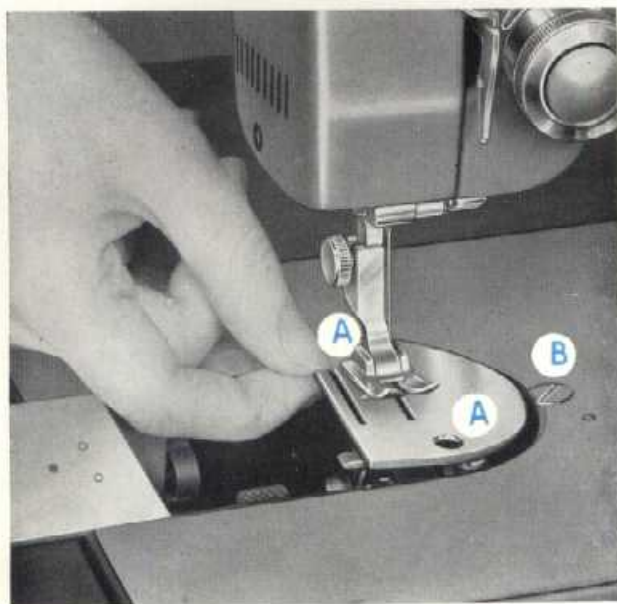

Fig. 7
- Lift up needle plate (Fig. 7) and move it to the left, thus freeing it from its locating screws « A ».